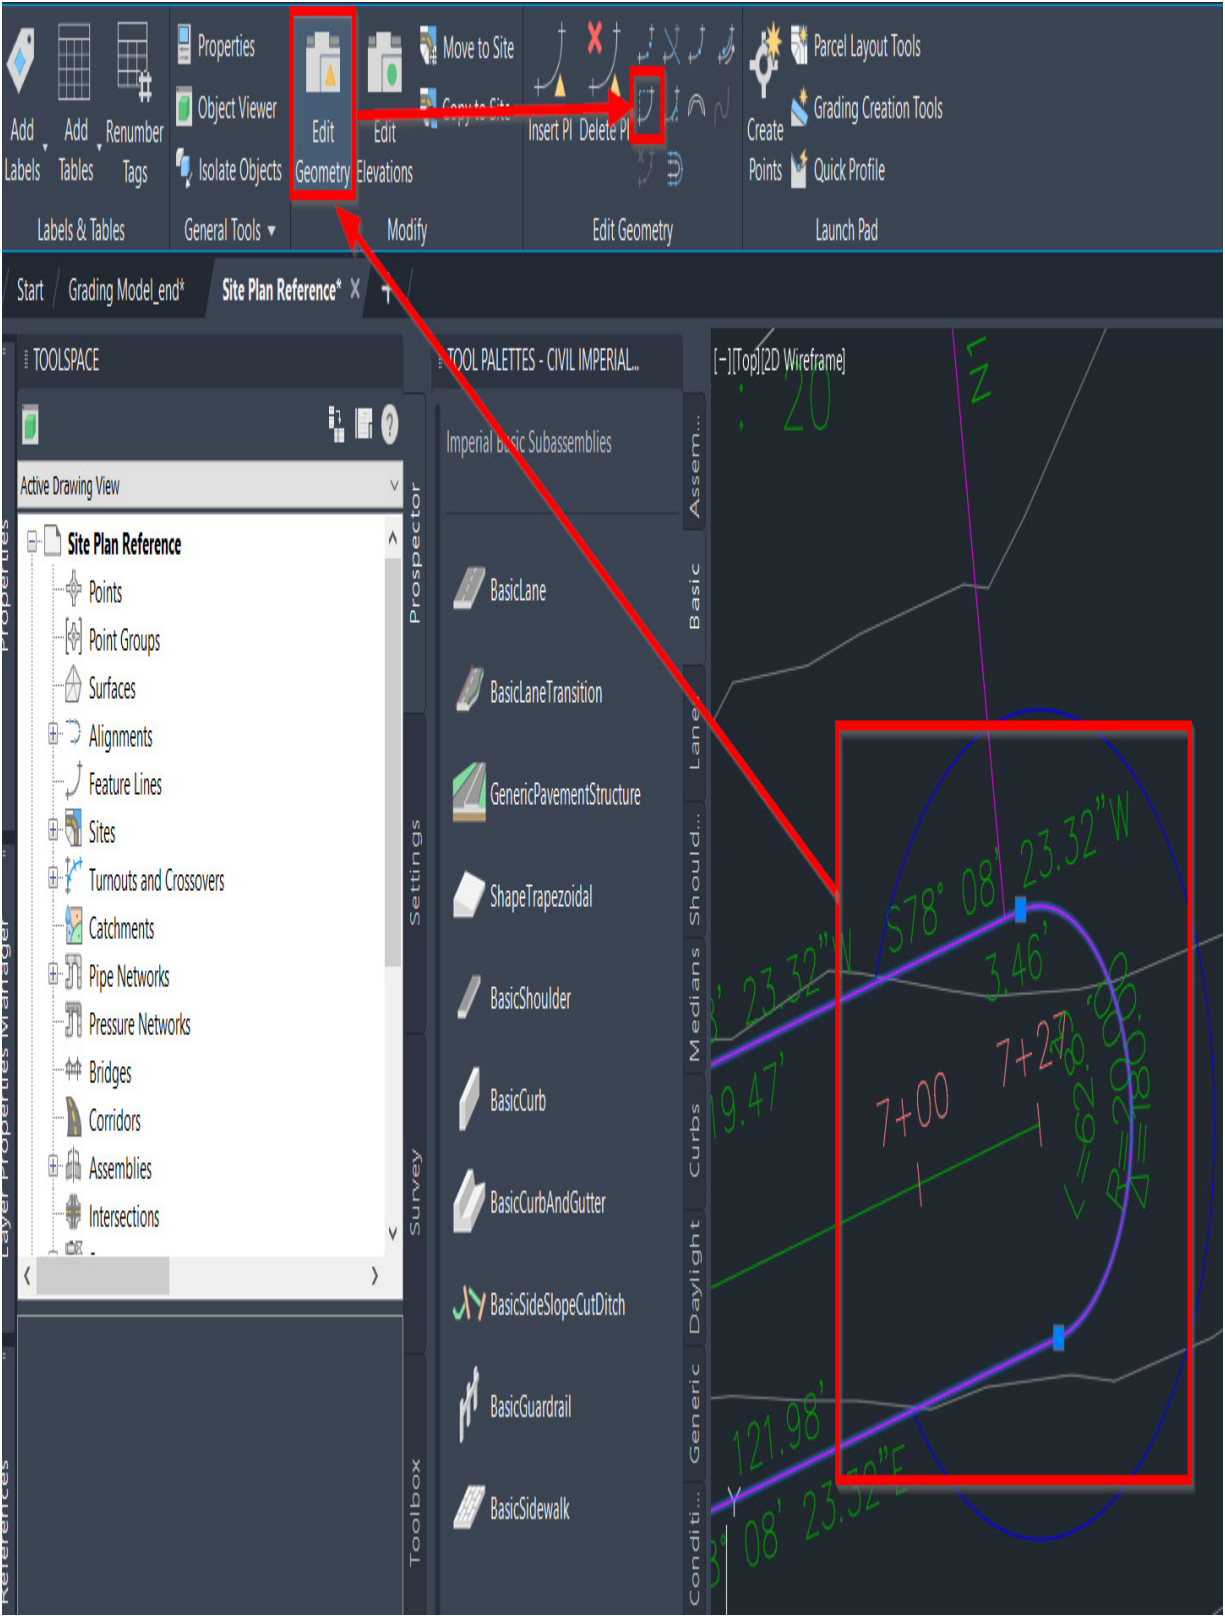

Figure 10.24 – Edit Curve parameters
**Geometry** icon in the **Modify** panel, then select the **Edit Curve** tool within the **Edit Geometry** panel, as shown in *Figure 10.24*: